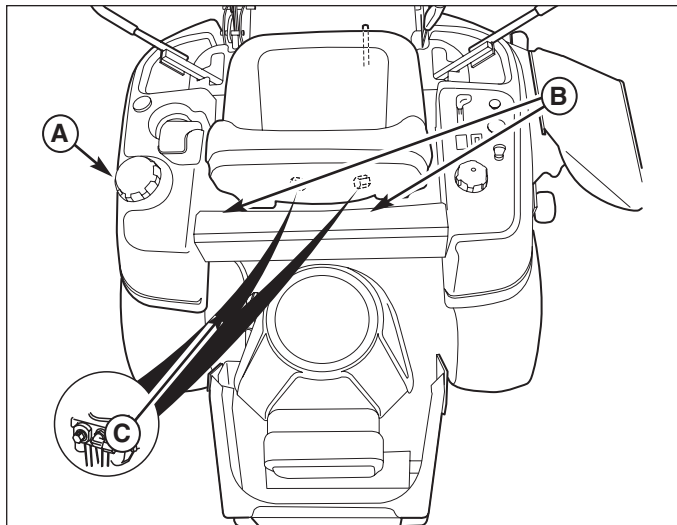

Figure 5. Check Fluid Levels
1. Use the dipstick (C, Figure 5) to check the engine oil level. If necessary add engine oil. Check engine manufacturer's owner's manual for oil recommendations.
2. Before removing the reservoir cap, make sure the area around the reservoir cap and fill neck of the reservoir is free of dust, dirt, or other debris. Remove the transmission oil caps (B, Figure 5).